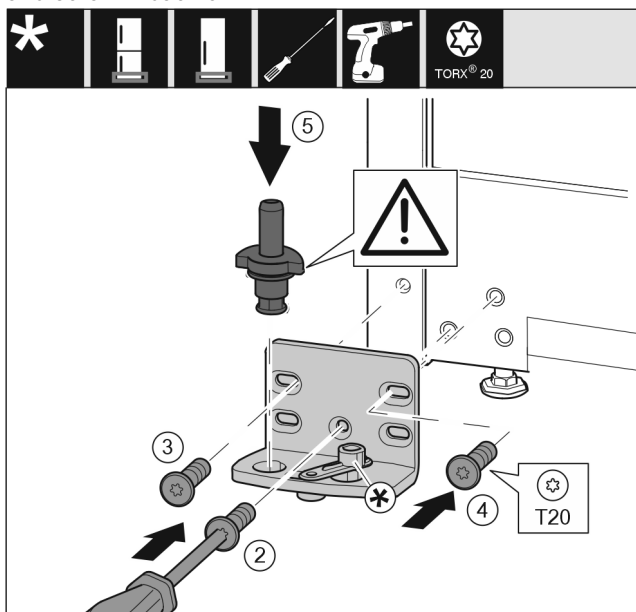

Fig. 15
- ▶ Place the swap bearing block on the other side and use a screwdriver to screw it on. Start with the screw Fig. 15 (2) at the bottom in the middle.
- ▶ Tighten screw Fig. 15 (3) and screw Fig. 15 (4).
- ▶ Insert the bearing bolt Fig. 15 (5) completely. Ensure that the latching cam is pointing towards the rear.